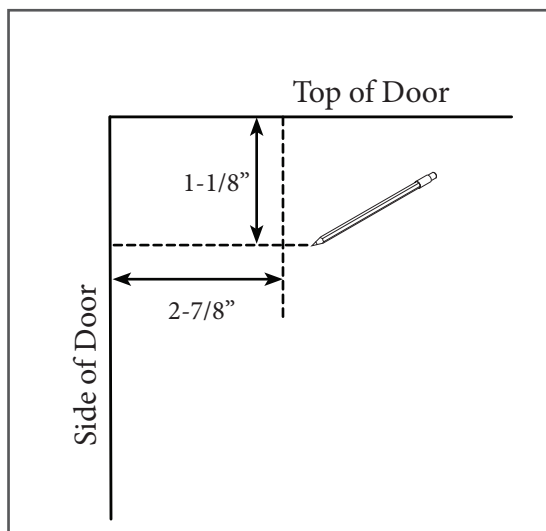

Figure 1
1. Lay the door face up on a smooth, level surface. Measure and mark  $2\text{-}\frac{7}{8}\text{'}$  from the side edge of the door. Measure and mark  $1\text{-}\frac{1}{8}\text{'}$  from the top edge of the door ensuring lines from both measurements intersect (Figure 1).